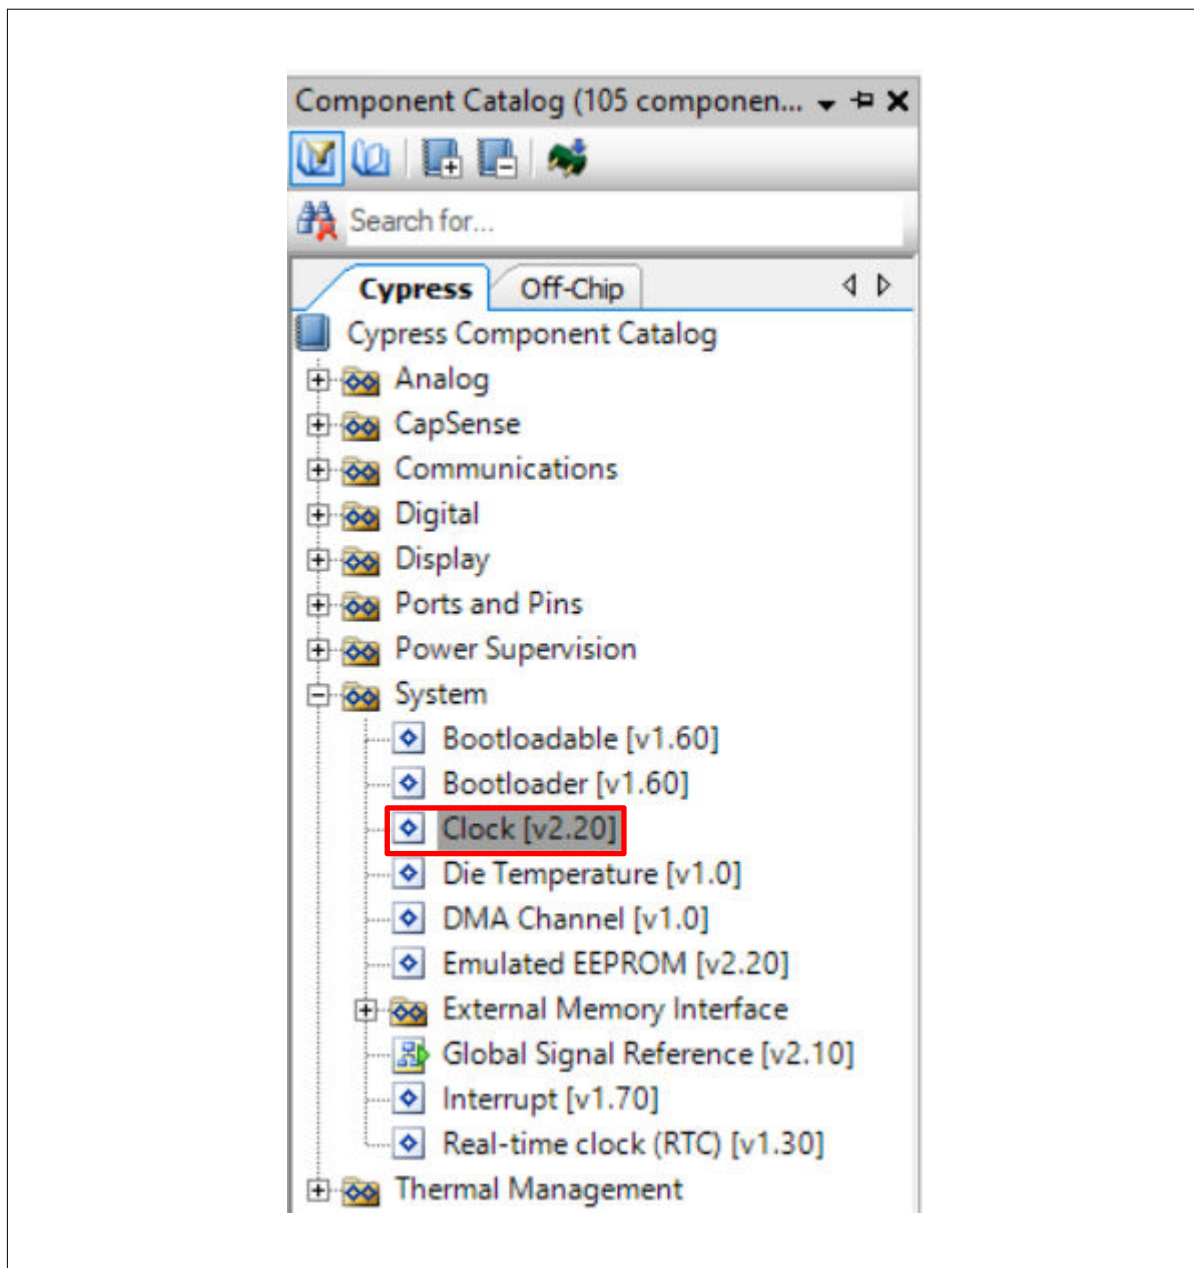
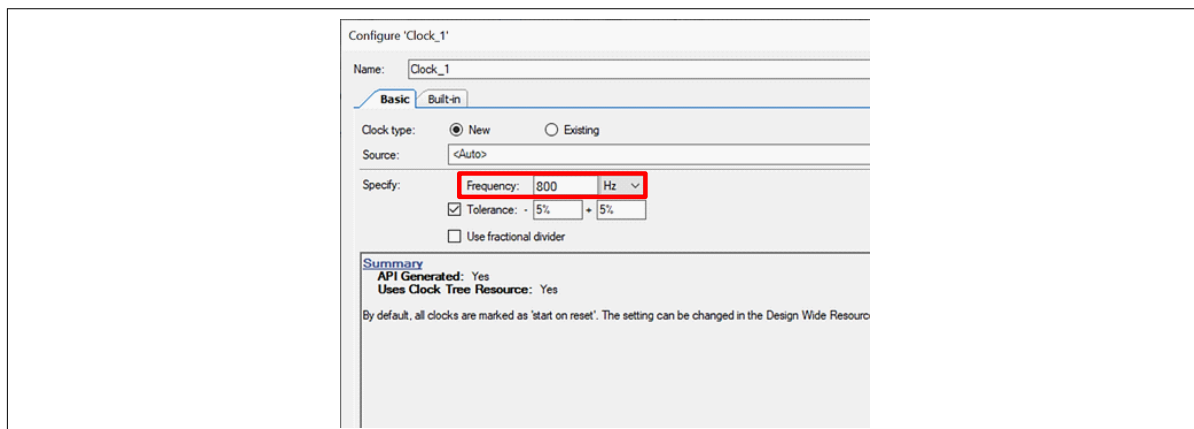

Figure 40 Location of the clock Component
Figure 41 Configuring the clock Component
8. A PWM Component requires an input clock for its operation. Drag and drop a **Clock** Component onto the schematic, and configure the **Frequency** to 800 Hz by double-clicking on the Component, as shown in Figure 40 and Figure 41. Because the Prescaler value set in PWM Component is 8, the effective input clock of the PWM is only 100 Hz. Therefore, the PWM period of 254 results in a PWM output time period of 2.54 seconds.